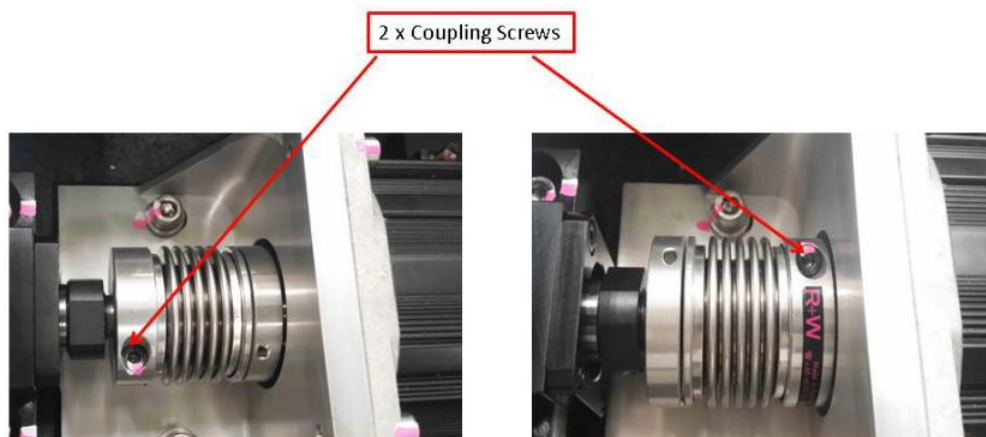

Figure 2 Coupling Screws
4. Loosen the 2 coupling screw of which is attached to the Y-Axis Ball screw and Y-axis motor as shown in the Figure 2.